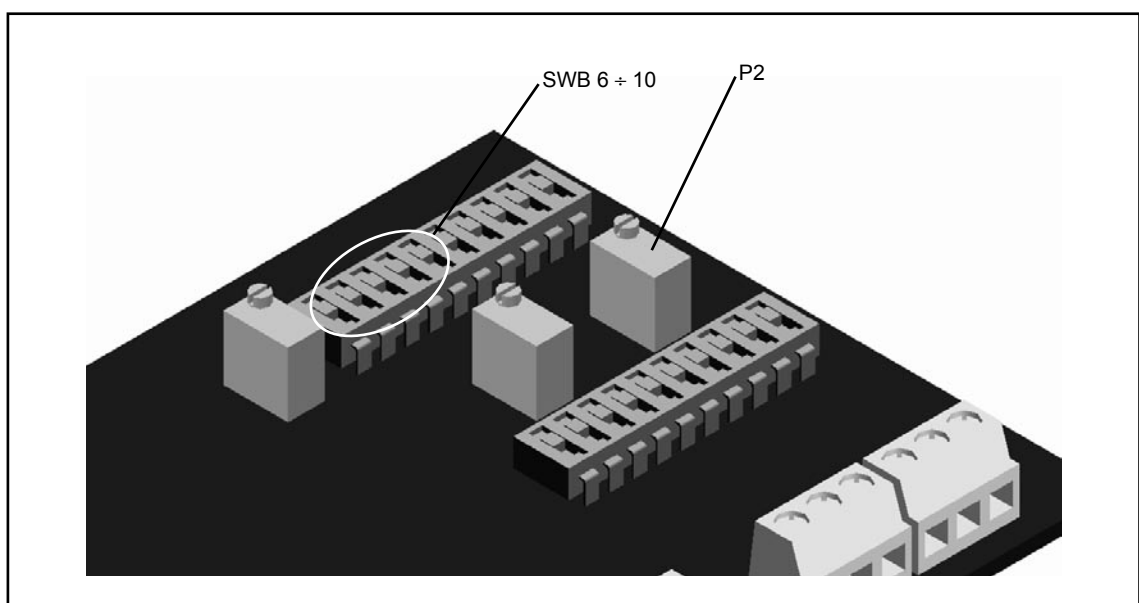

Fig. 5-10 : SWB 6 ÷ 10 micro-switch and P2 potentiometer locations on the circuit board.
- Make sure that the microswitches SWB 6 to 10 are on position Off (refer to figure 5-10 for the micro-switch location on the circuit board).